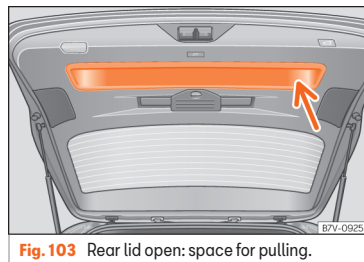

Fig. 103 Rear lid open: space for pulling.
- Grab the handgrip inside the rear lid »» **Fig. 103** (arrow).